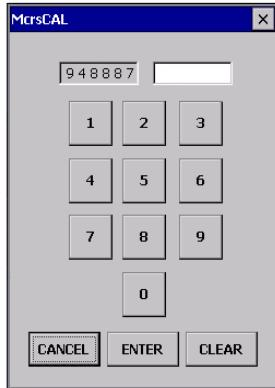

Figure 4-13: Windows CE CAL Password Entry Screen Keypad
2. CAL displays the password screen shown in Figure 4-13, below under the following conditions.